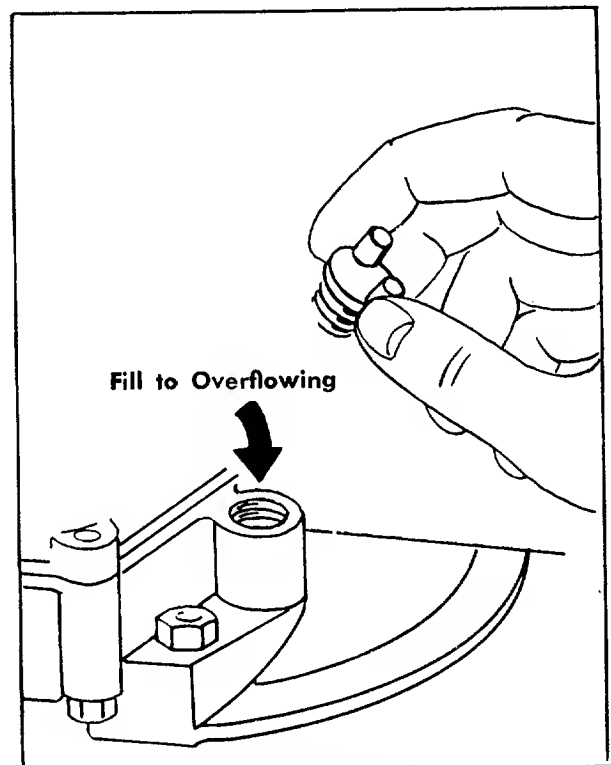

FIGURE 12. OIL FILL
Check the oil level in the crankcase before each use of the machine and after every two hours of operation. Keep the oil level to the overflowing point. See figure 12.
Step 3. With the machine on level ground, remove the oil filler plug. See figure 12. Fill the crankcase until the oil overflows from the oil fill hole. Fill slowly to avoid air locks. The crankcase holds approximately $1\frac{3}{4}$ pints of good quality SAE 30 type MS engine oil. Replace the oil filler plug.